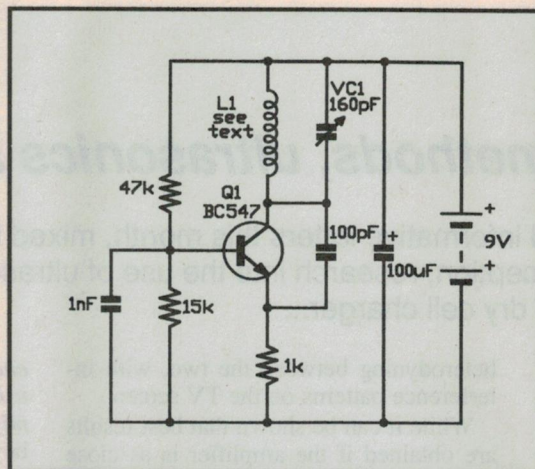

Fig.9: A simple metal detector.
If we take a look at the circuit in Fig.9, you can see that there's very little to it. However, you need to have a portable AM broadcast-band receiver close by. Our metal detector is basically a very weak radio-frequency (RF) transmitter, whose frequency is determined by the tuning capacitor VC1 and the search coil L1.